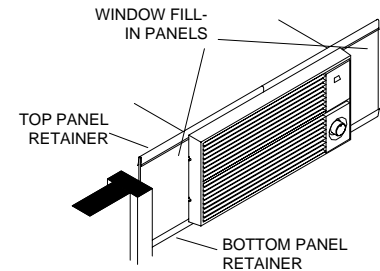

FIG. 2
- **Install window panel retainers.** Place two panel retainer strips onto bottom of neck flange and position to the width of the window. Cut the strips to fit if necessary. These strips hold the window fill-in panels (Fig. 2).